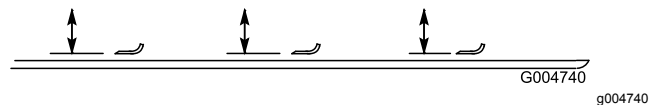

Figure 111
2. Rotate the blade until the ends face forward and backward and measure from the inside of the mower deck to the cutting edge at the front of the blade (Figure 111).